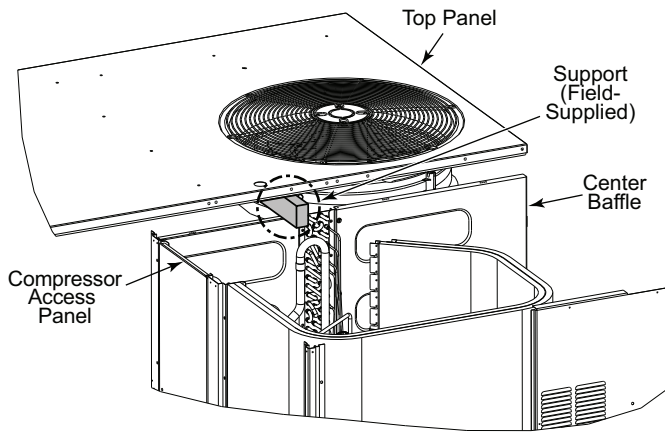

Fig. 19 – Top Panel Position
3. Lift and rotate the top panel at the condenser fan end and rotate the panel 90 degrees. Support the top panel so it remains level while resting on the condenser fan as shown in Fig. 19.